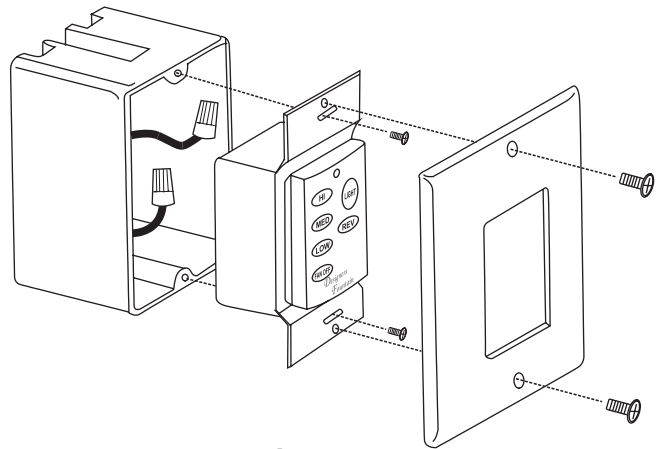

Figure 16
Step 2. (Fig. 16) Secure the wall transmitter with the two screws provided. Attach the wall plate over the wall transmitter and secure with the two screws provided.